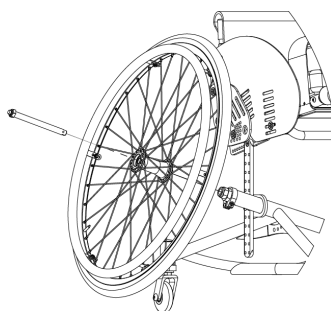

FIG. 10
- Make sure that the "X" button has been entirely released (fig. 10), once the wheel has been assembled.